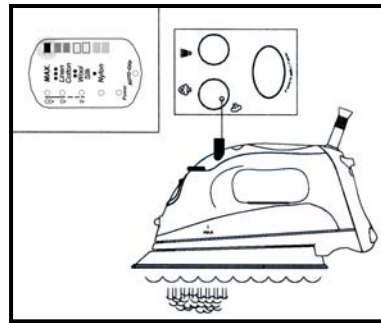

Fig. 3
- Turn the steam button all the way to the left to the burst of steam position. (Fig. 3)